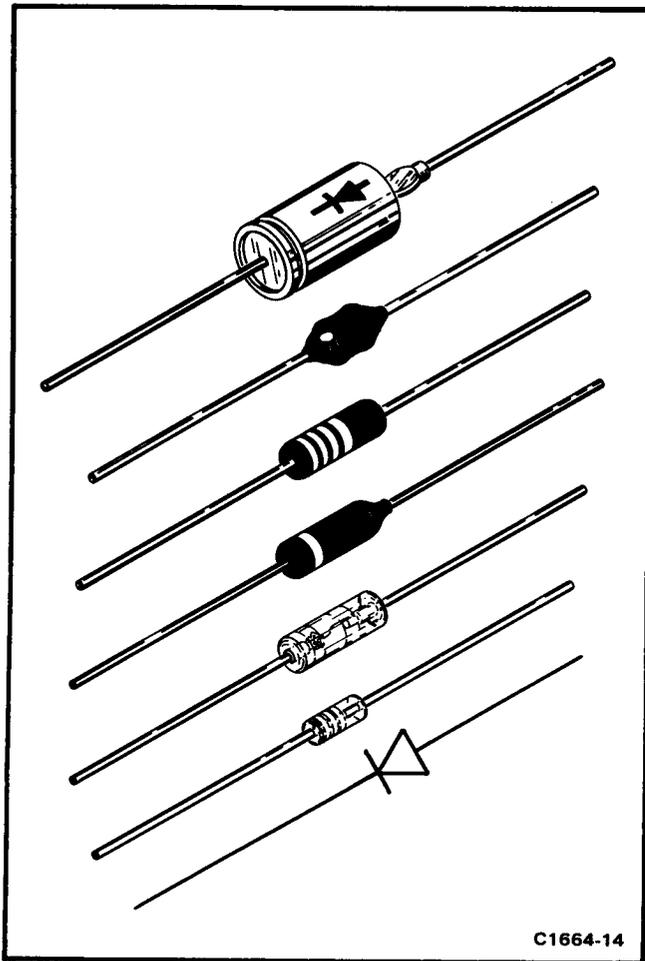

Fig. 4-3. Diode polarity markings.
**Diode Color Code.** The cathode of each glass encased diode is indicated by a stripe, a series of stripes, or a dot. Some diodes have a diode symbol printed on one side. Figure 4-3 illustrates diode types and polarity markings that are used in this instrument.
4. Use only good components for substitution and be sure the new component is inserted into the socket properly before soldering. Refer to the manufacturer's data sheet or Fig. 4-3 for lead configuration.